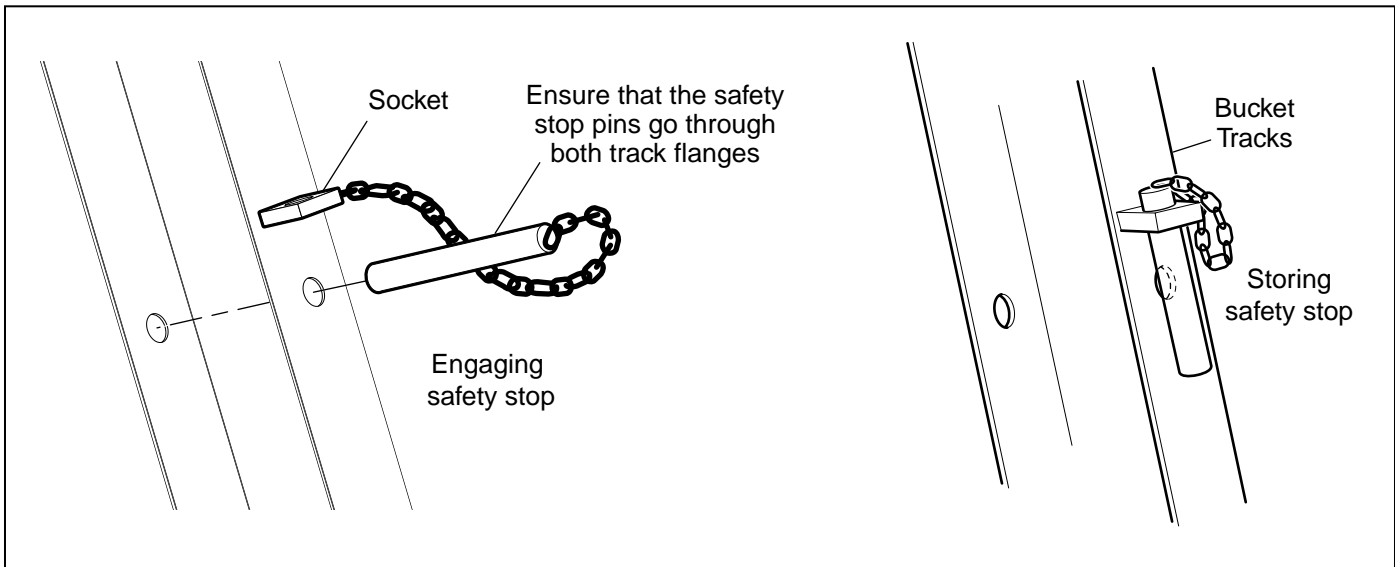

Figure 3.3 Safety Stops
Figure 3.3 illustrates the safety stops.
4. After the bucket comes to rest, make sure the safety stops are securely in place and are bearing the weight of the bucket. See Figure 3.3.
- Raise the bucket. See Figure 3.3.
- Pull the safety stops out and insert in socket. See Figure 3.3.